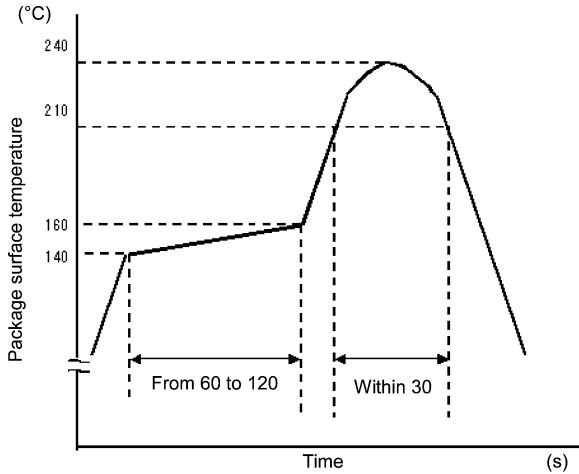

Fig. 11.1.1 An Example of a Temperature Profile When Sn-Pb Eutectic Solder Is Used
- When using soldering reflow (See Fig. 11.1.1 to 11.1.3)